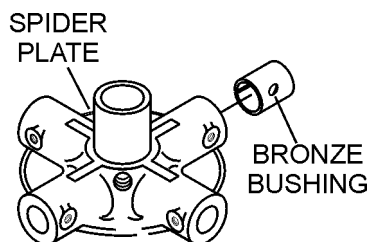

Figure 33. Bronze Bushings
4. Examine the bronze trowel arm bushing insert (Figure 33), clean if necessary. Replace bushing if out-of-round or worn.